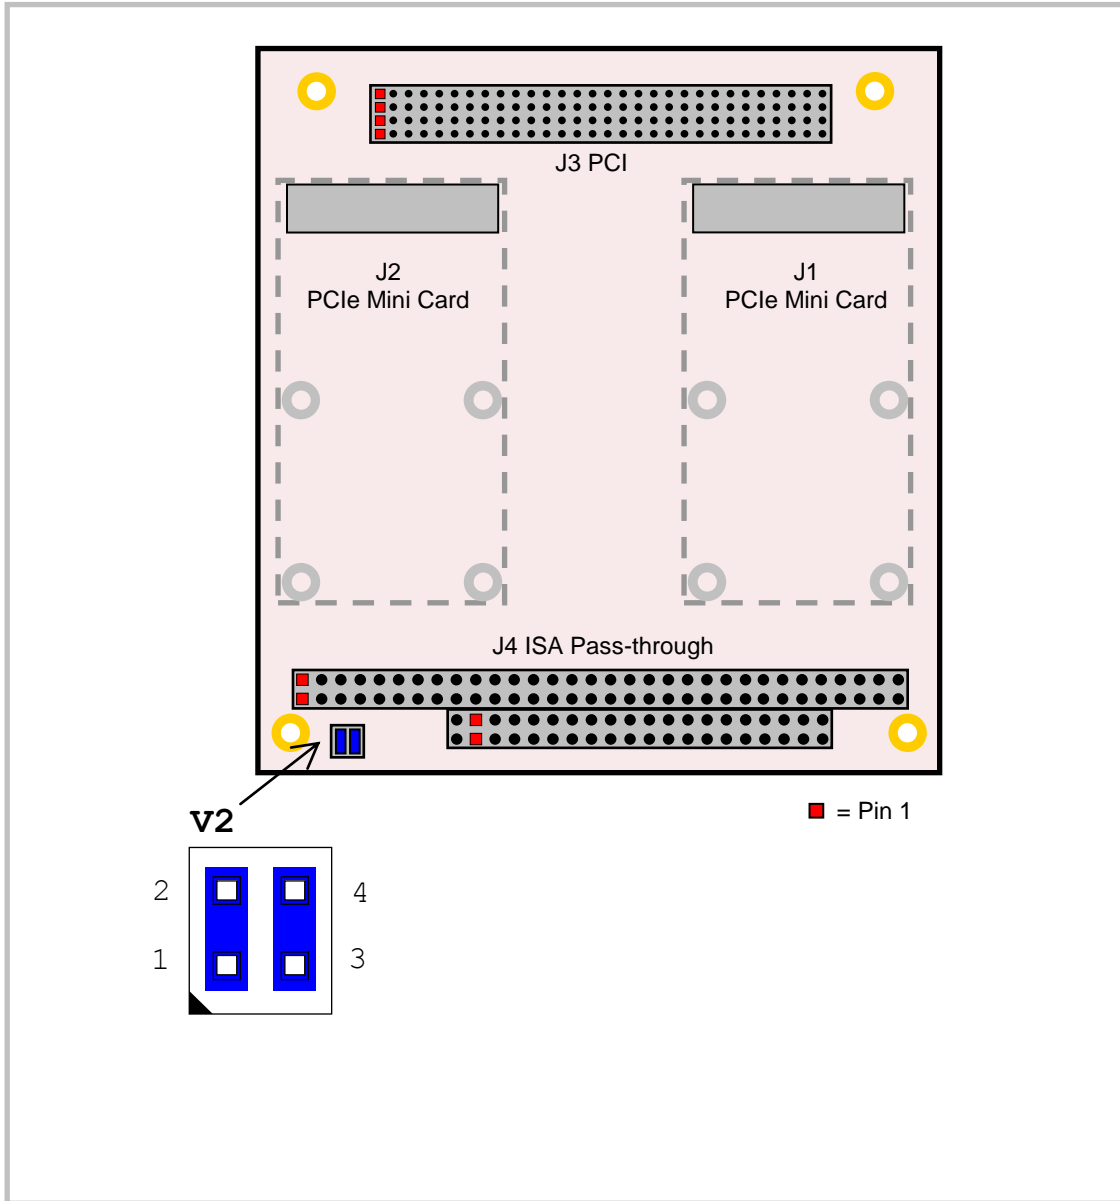

Figure 3. Module Connectors and Jumper Blocks – Top Side
1. Origin is the lower left mounting hole as shown in Figure 3. All coordinates in inches.